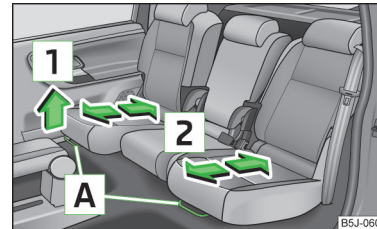

Fig. 56
- › Pull lever **A** in the direction of arrow **1** and move the seat to the desired position in the direction of arrow **2** » Fig. 56.